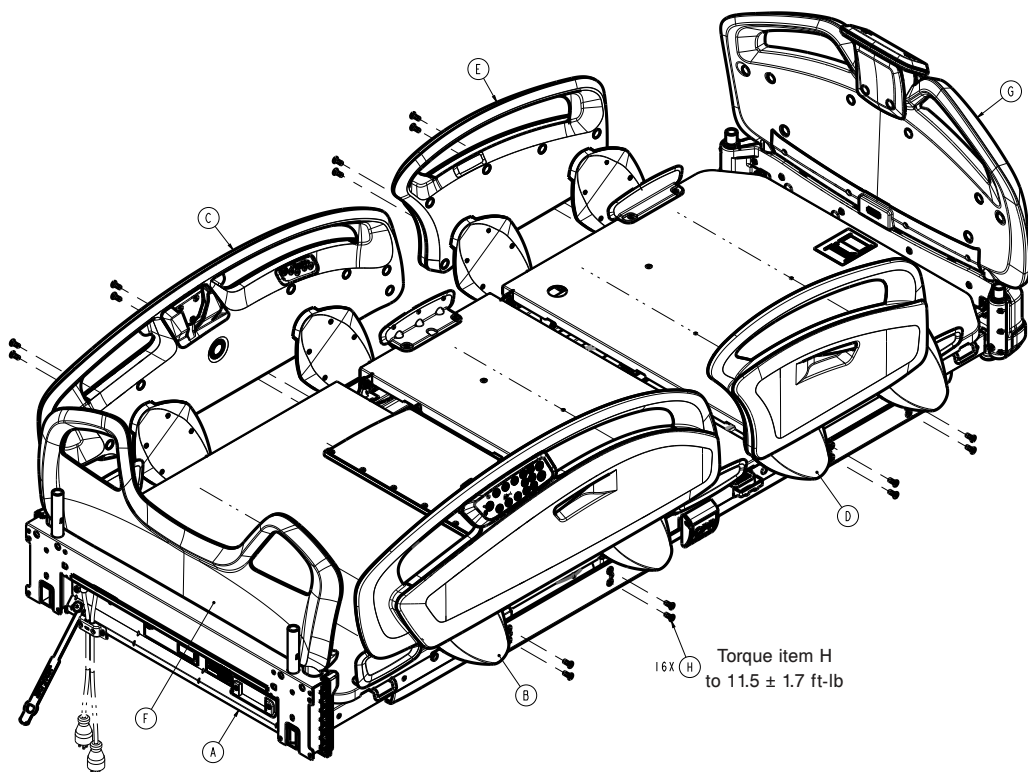

Figure 56 – Replacing the siderail hoop
20. Using a T27 Torx driver while you support the siderail, remove the four bolts (H) that secure the siderail mounting bracket to the Fowler frame (Figure 56). Remove the siderail assembly.
9. Using a T30 Torx driver, remove the screw (AC) that secures the siderail position switch (U) to the siderail hoop. Pull out the cable retainer. Remove and save the switch.
10. Using a ratchet and a 1/2" socket, remove the nut (W) that secures the latch activation lever and the siderail detent paw. Remove and save the activation lever and detent paw.
11. Using a ratchet and a 9/16" socket, remove the nut (Y) that secures the siderail latch (G) to the siderail hoop. Remove and save the latch.
13. Using a T27 Torx driver while you support the siderail, remove the four bolts (H) that secure the siderail mounting bracket to the litter frame (Figure 56). Save the bolts. Remove the siderail assembly.